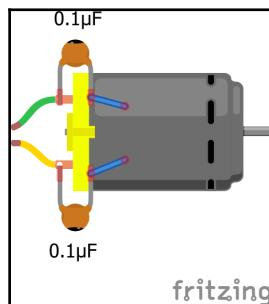

Figure 5-3: Two 0.1 μ F ceramic capacitors soldered to the motor for greater noise reduction
1. Solder two capacitors to your motor, one from each motor terminal, to the motor case, as shown in figure 5-3: